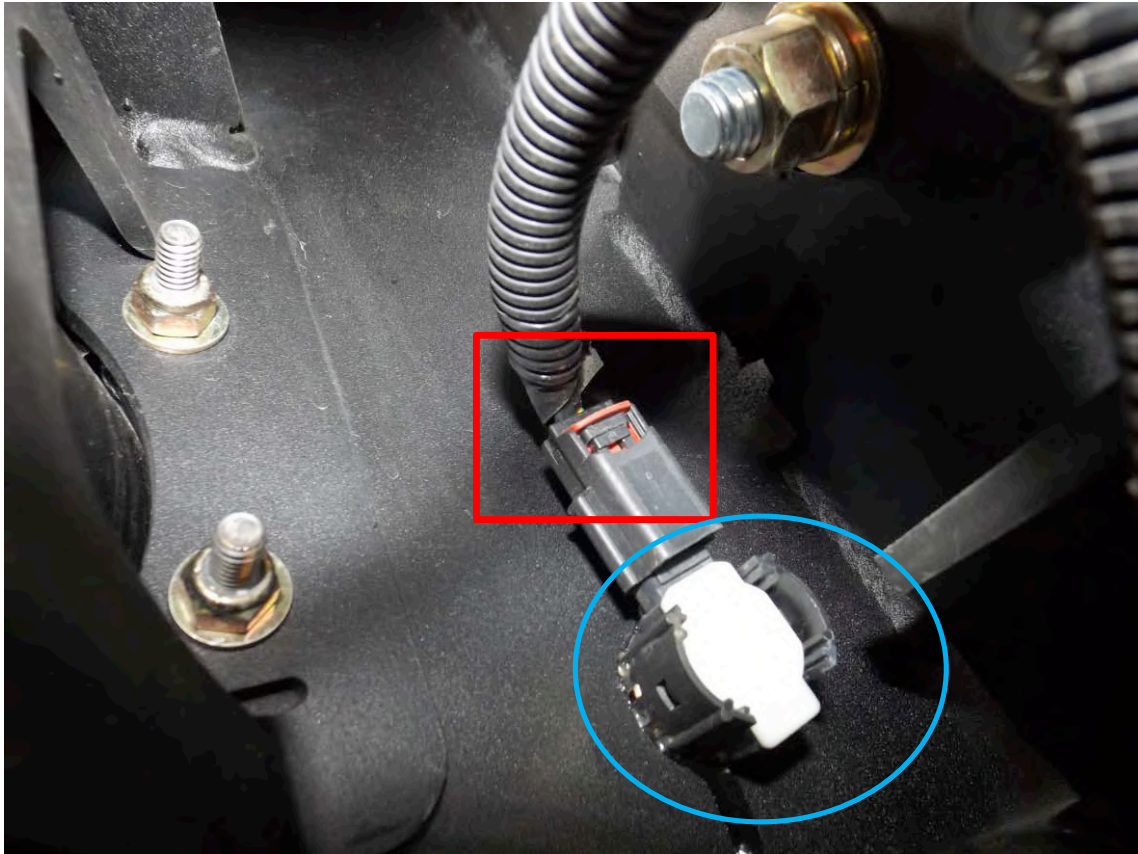

Figure 7
- G. Remove OEM electrical harness from bumper. Disconnect harnesses from fog lights and sensors. Sensors can be disconnected from housing by depressing the plastic clip indicated by the red square (ref. Figure 7).**
- I. CAREFULLY remove sensors from plastic housing by gently pulling top and bottom tabs, indicated by blue circles (Ref. Figure 7), away as sensor is pulled out. Do not push on front**